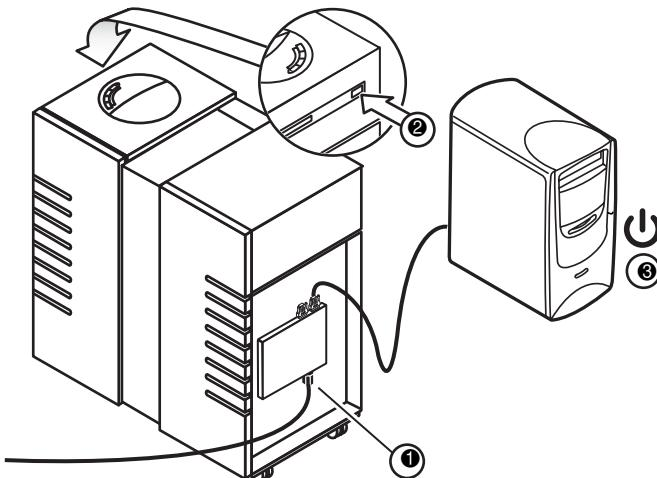

Figure 9: Connecting power
3. Connect power to the jukebox (1). Power on the jukebox (2) and then the host system (3). See Figure 9.